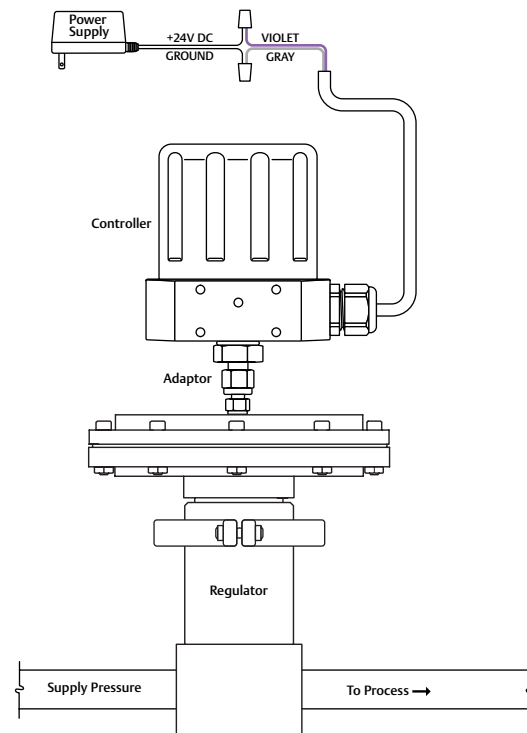

Figure 10: Connect the ER5000 to the Power Supply
1. Refer to Table 2 below and *Figure 10* on the next page to verify correct wiring.